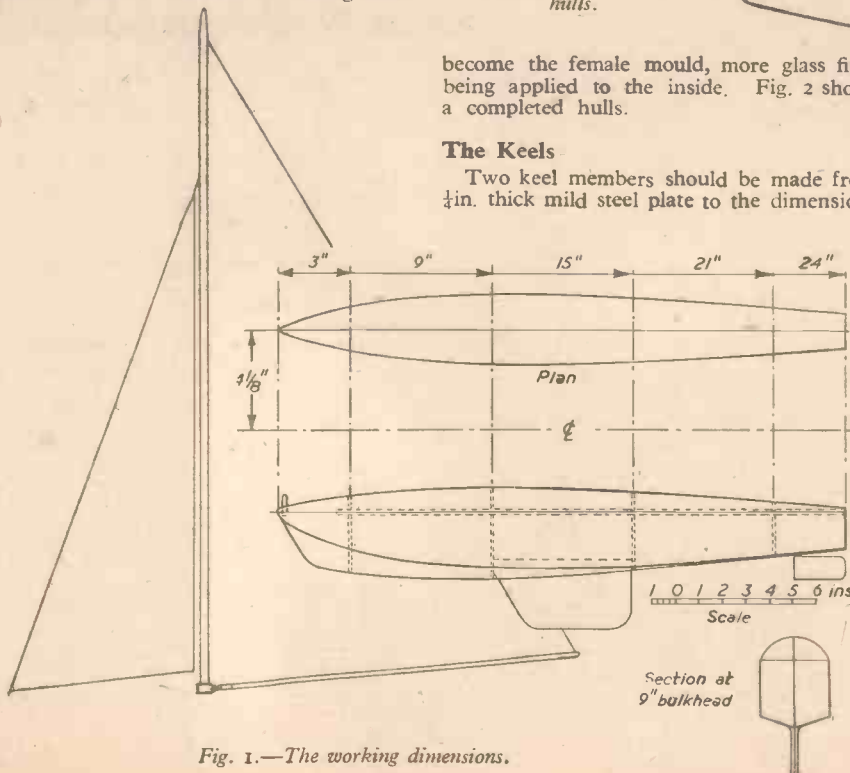

Fig. 1.—The working dimensions.
**A**N overall length of 24in. was decided as convenient for handling, yet large enough to sail on fairly choppy water and photographs of a commercial full-size catamaran were scaled to give approximate working dimensions. These dimensions are given in Fig. 1.